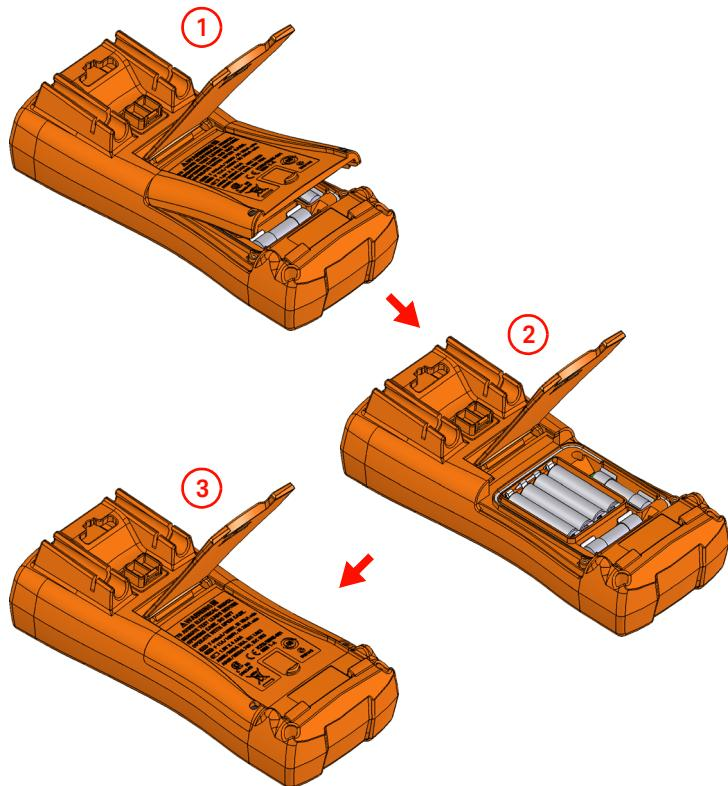

Figure 1-1 **Installing the batteries**
- 1 Open the battery cover.** Lift the tilt stand, loosen the screws with a suitable Phillips screwdriver, and remove the battery cover as shown in Figure 1-1.